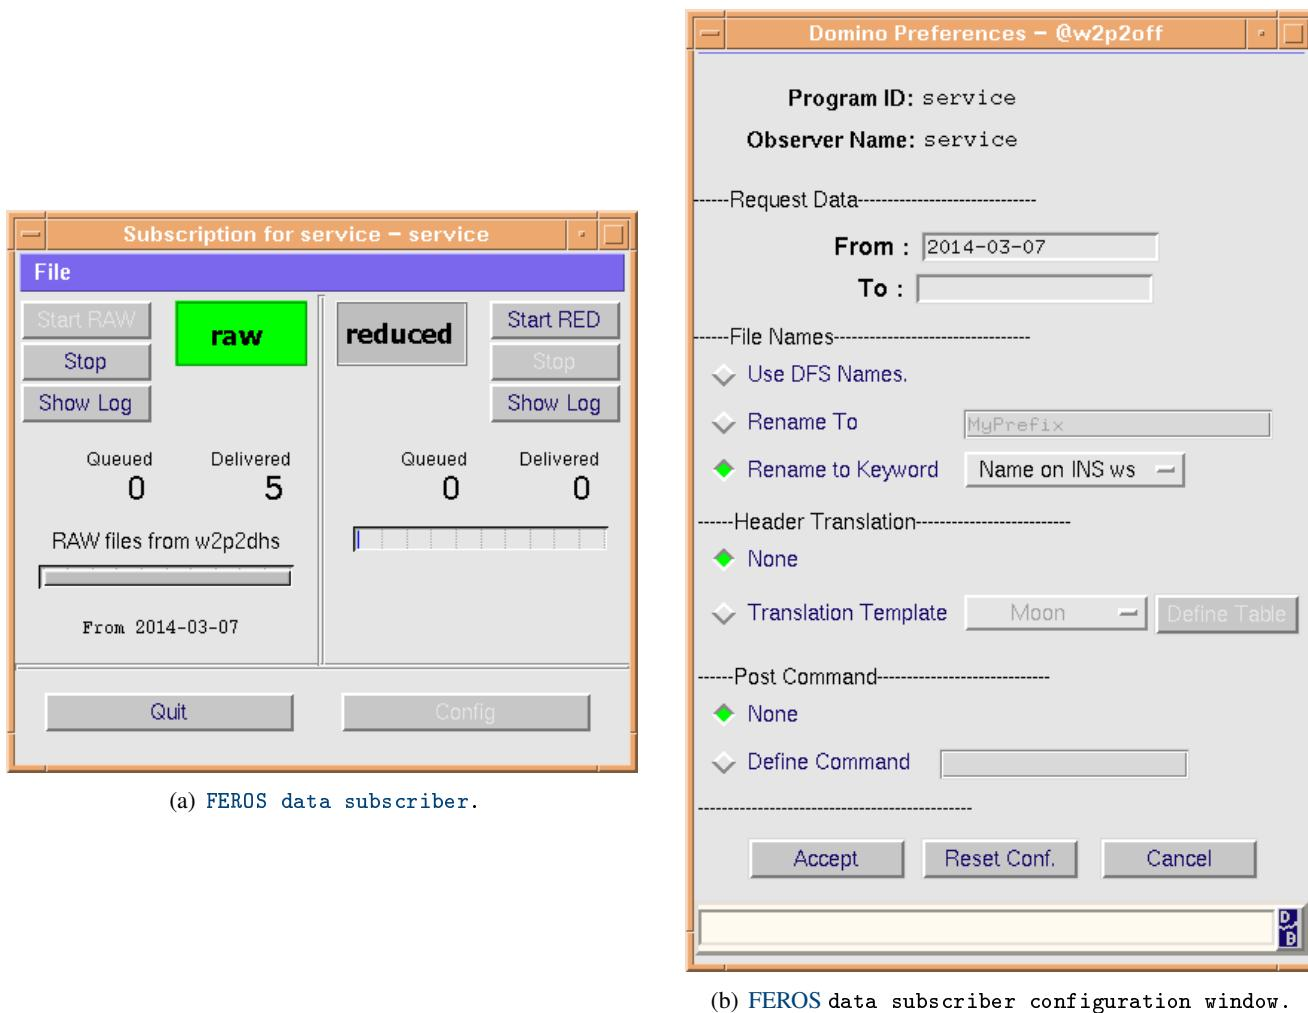

Figure 10.3: FEROS data subscriber.
- A. Stop **data subscriber** and **DRS** at the **DRS** computer (Fig. 10.3(a), p. 83).
- C1. Left click start **data subscriber** and configure it (Fig. 10.3(b), p. 83).